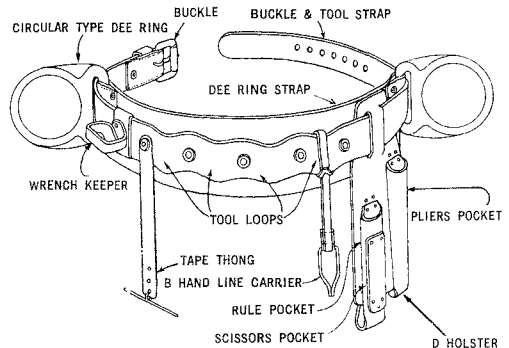

Fig. 1 — Body Belt and Accessories
5.01 The D Holster, made of leather, is an off-set double holster with pockets for a rule and pliers, and a pocket for scissors attached to the rule pocket. Only the "Right" D Holster is shown on a "Right" body belt in Fig. 1.
5.02 The B Handline Carrier is a device which may be attached to a body belt and used for securing one end of a rope while climbing a pole. It is made of a steel loop designed to release the rope under strain. The loop is attached to a rawhide strap approximately 8 inches long and slit near the opposite end. The slit in the strap permits attaching the carrier to the body belt as shown in Fig. 1.